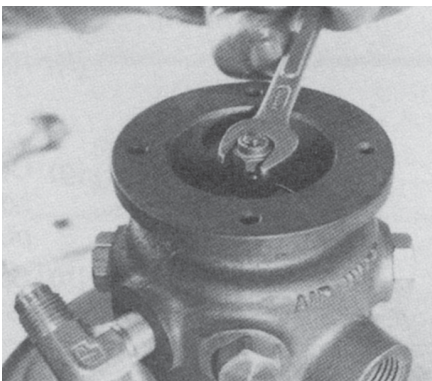

Figure 4-5 Removing self-locking nut from connecting rod.
4.5 Use 7/16" wrench to remove self-locking nut (44) from connecting rod (37). See Figure 4-5.